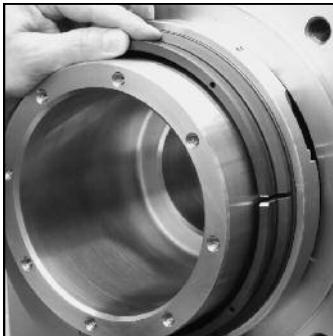

Figure 11
2. Place the primary ring halves around the shaft, with the sealing surface facing the mating ring adapter assembly, and bring the halves together. (Note: Placing the primary ring halves against the mating ring face while bringing the halves together will help to steady the primary ring halves and make aligning the split joints easier). Figure 11.